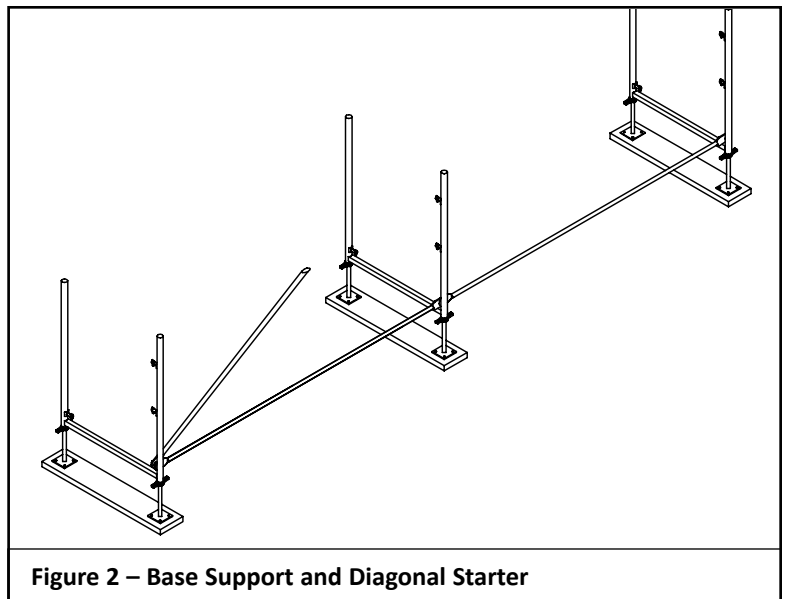

Figure 2 – Base Support and Diagonal Starter
- is fastened to the bottom drop lock stud on the frame leg (Fig. 2)